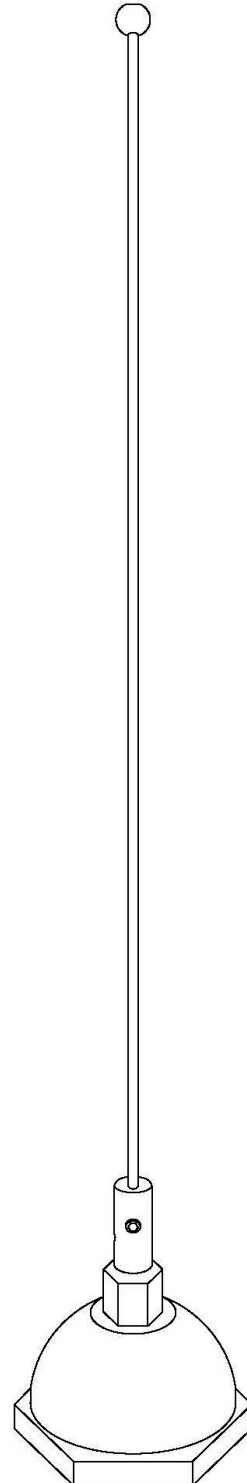

FIG. 1
- 4.) Route the cable through the mounting hole exposing leaving approximately 6" of cable exposed. See figure 1. Loosely coil excess cable at the radio end, and store where it will not be damaged.
- 5.) Carefully strip cable end as shown. See figure 1.